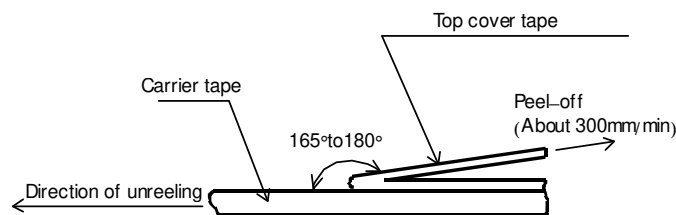
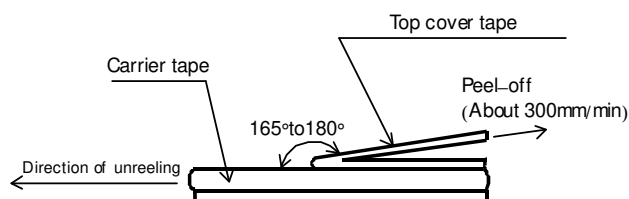

Figure-8
Figure-9
- 5). The peel strength of the top cover tape shall be within 0.1N to 0.5N on the test method as shown in the following RMPC04,06: Figure-8, RMPC10,16,20,32: Figure-9, RMPC35: Figure-10.